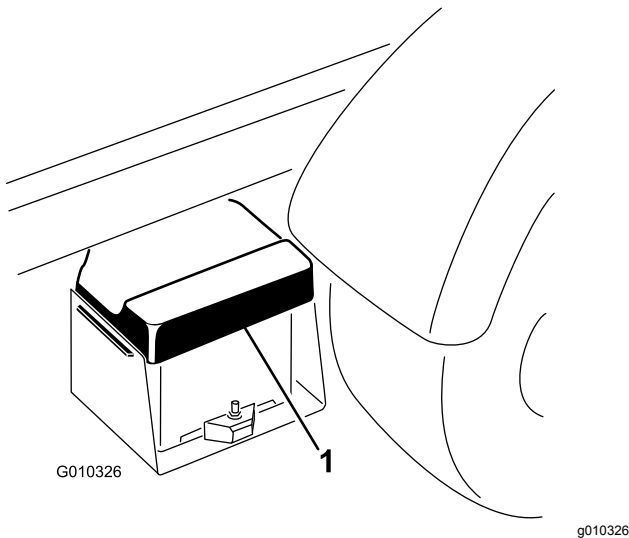

Figure 51
1. Squeeze the battery cover to release the tabs from the battery base and remove the battery cover from the battery base (Figure 51).